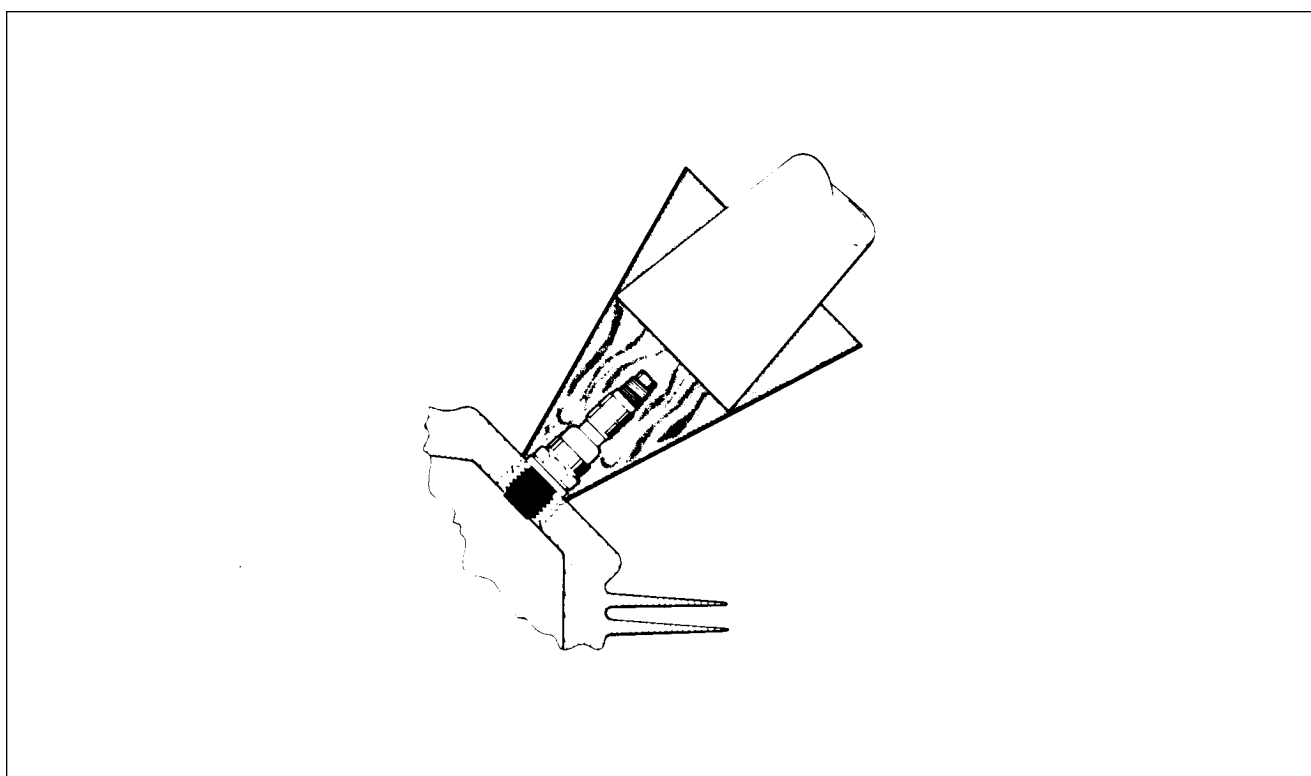

Figure 8-29. Removing Frozen Spark Plug
- d. Removal of seized spark plugs in the cylinder may be accomplished by application of liquid carbon dioxide by a conical metal funnel adapter with a hole at the apex just large enough to accommodate the funnel of a CO₂ bottle. (Refer to Figure 8-29.) When a seized spark plug cannot be removed by normal means, the funnel adapter is placed over and around the spark plug. Place the funnel of the CO₂ bottle inside the funnel adapter and release the carbon dioxide to chill and contract the spark plug. Break the spark plug loose with a wrench. A warm cylinder head at the time the carbon dioxide is applied will aid in the removal of an excessively seized plug.